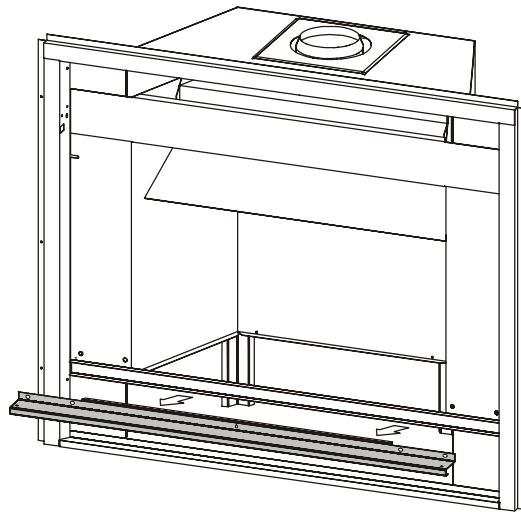

Figure 6a. Removing the front bar.
3. Remove the four screws holding the front bar in place. See figure 6a.